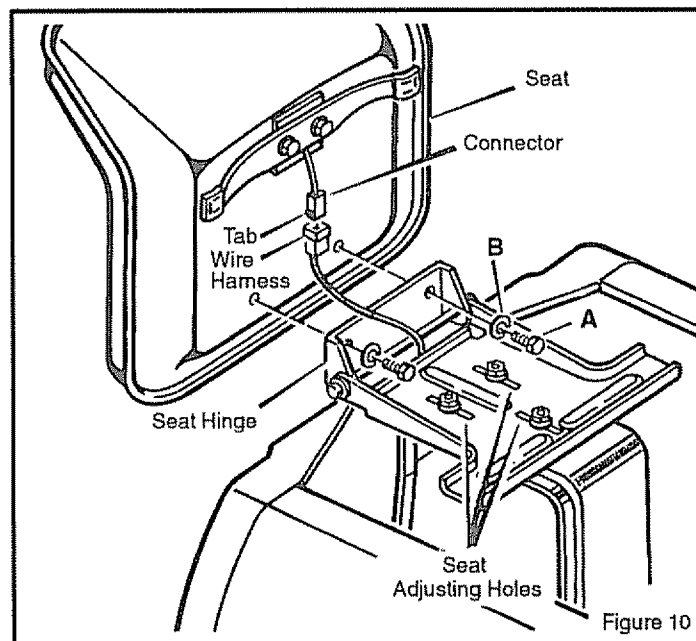

Figure 10
4. Align the holes in the **seat hinge** to the holes in the **seat** (Figure 10). Fasten the **seat** to the **seat hinge** with the fasteners as shown. Tighten the fasteners.